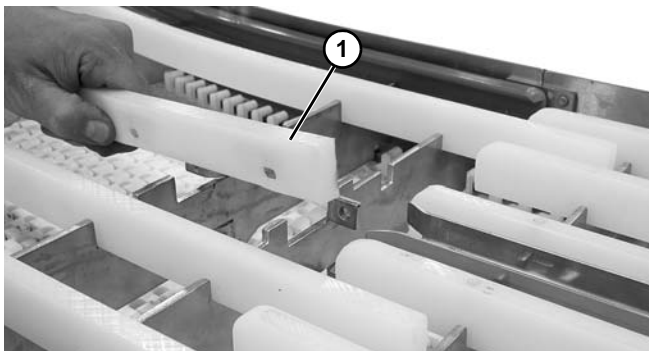

Figure 46
2. Remove the wear strip (**Figure 46, item 1**).